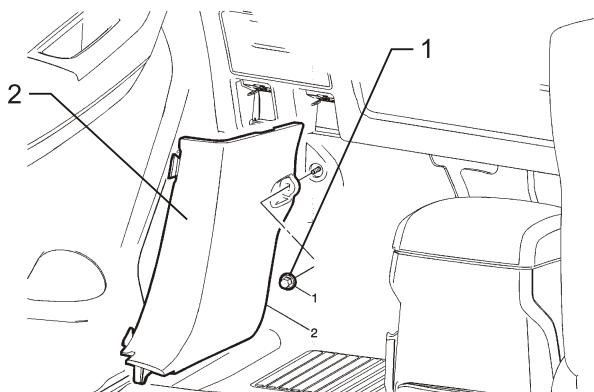

Figure 16
29. Remove the retaining nut (1) from both front side kick panels (2). Pull off the lower portion of door frame seal to release the kick panel and remove the kick panel from the vehicle. Refer to figure 16.